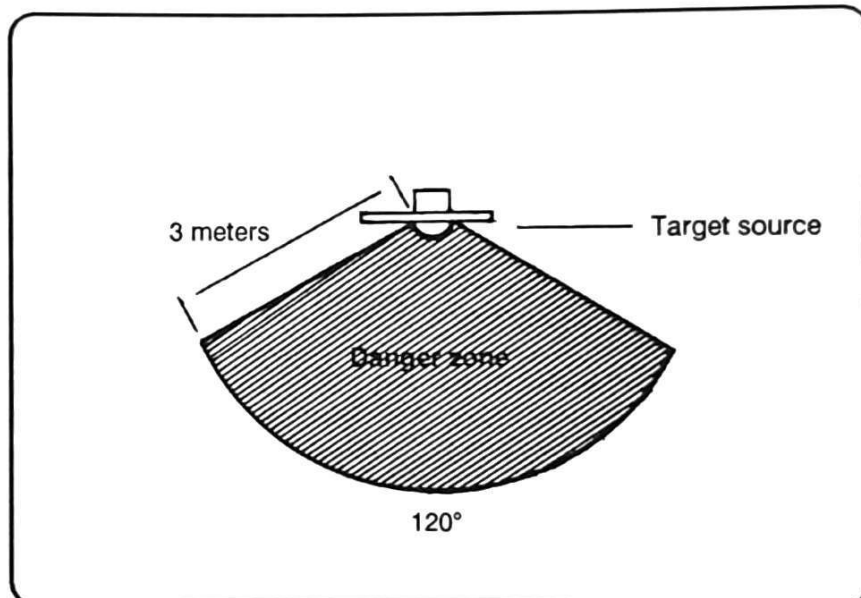

Figure 6-9. Target source danger zone.
WARNING: During operation, do not look into the target source lamp when in the danger zone. (See Figure 6-9.) Do not look at the target source through vehicle mirrors or any other reflective surface. Serious eye damage could result, requiring immediate medical attention. Also, do not look into the infrared lamp (target source) when within 3 meters of the target source.
(1) *Target source.* The target source operates at training frequency (5 KHz) and simulates the missile flare. Personnel must not enter the danger zone while the target source is operating (Figure 6-9).
3. Do not allow personnel to enter the danger zone (see Figure 6-9) while the target source is in operation.